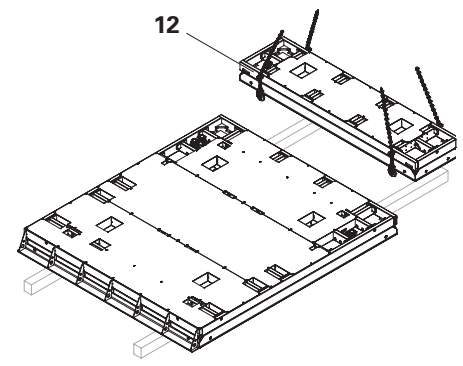

Fig. B1.05
3. Position the Extension Heated Formwork Panel (12) at the top. (Fig. B1.05)